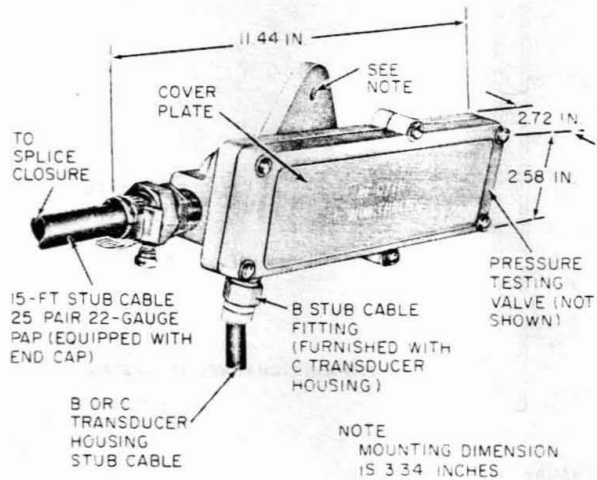

Fig. 4—C Junction Box
5.12 The C junction box (Fig. 4) encloses an 88-type connecting block factory wired to a 25-pair 22-gauge single sheath plastic stub cable. The junction box stub cable conductors have standard